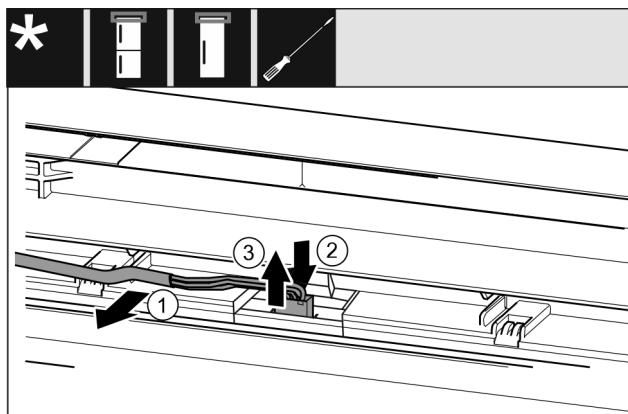

Fig. 22 Fridge/freezer combinations/freezers/cooling units*
- ▶ Carefully loosen the cable Fig. 22 (1) from the guide in the door.*
- ▶ Press back the tab Fig. 22 (2) behind the plug.*
- ▶ Pull the plug Fig. 22 (3) upward carefully.*